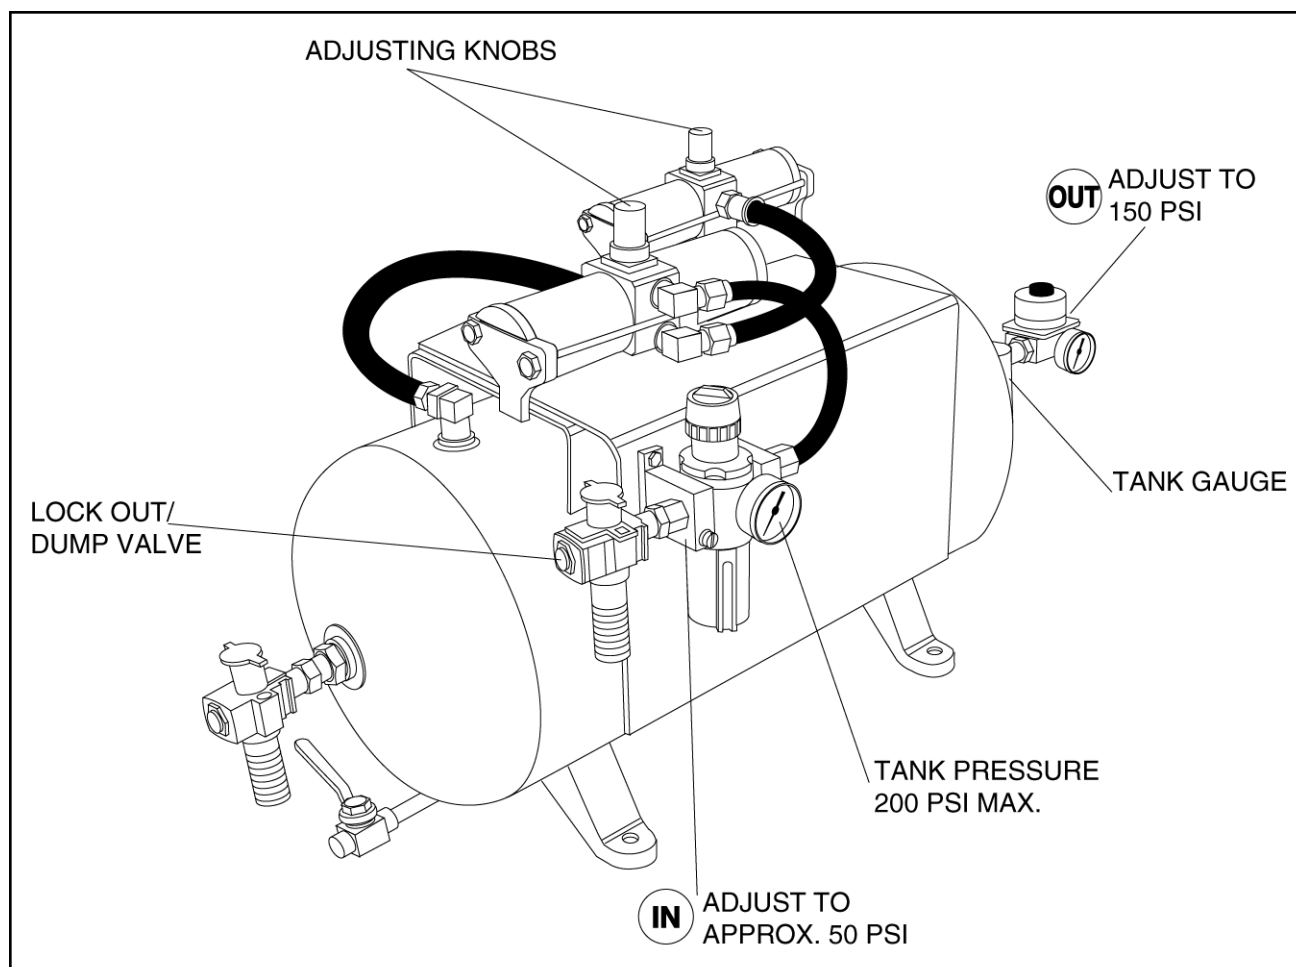

Figure 16.5 AMPLIFIER AIR CONNECTIONS
The head clamp air system is fed with air from an air amplifier (see figure 16.5). Air pressure on raise/lower cylinder in the head clamp air system must be adjusted each time a new mold is installed on the stripper head frame. To adjust the air pressure, follow this procedure:
2. Adjust tank air pressure at 200 PSI max. This is done by setting the input regulator to approx. 50 PSI and adjusting air amplifiers (with the adjusting knobs). Refer to figure 16.5.
3. Adjust air pressure coming out from the air tank to 150 PSI (see figure 16.5).